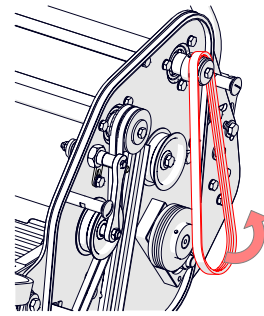

Fig. 16I - Remove and replace the belt.
- ii. Hold the tensioner pulley away. Remove the belt and replace (if required) (Fig. 16I).